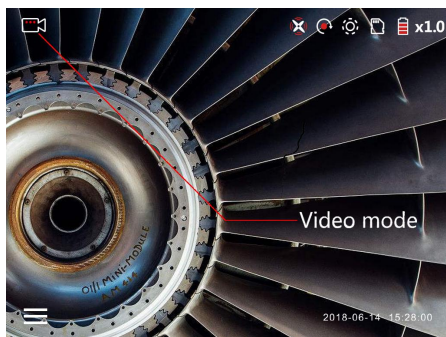

Figure 23
2) Video: Press the camera/video switch button  to adjust to the recording mode. The icon in the upper left corner of the screen shows the recording mode (Fig. 23). Press the camera/record button at the handle of the instrument  to start recording. At this time, there is a recording time prompt in the upper left corner of the screen. In the video mode, long press the camera/record button  to capture the video during the recording process, and short press to end the recording.